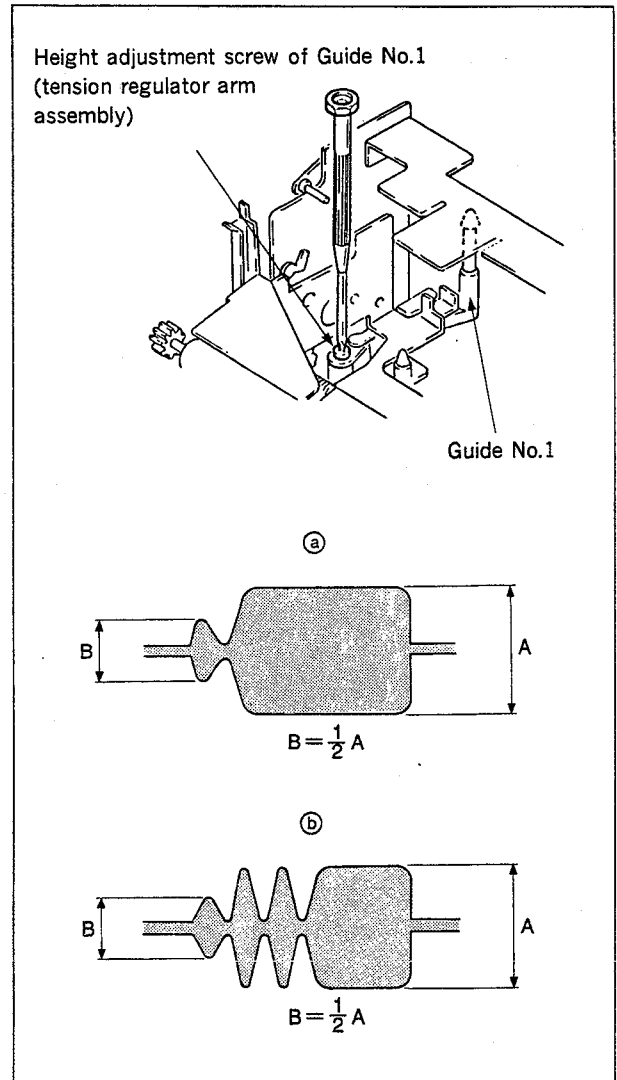

Fig. 6-2-2 Entrance side rough adjustment (2)
- 1) When the wave shape in Fig. 6-2-2 (a) has only 0.5 peak (amplitude is  $1/2$  of A) or less, rotate the height adjusting screw of Guide No.1 in clockwise direction. It causes raising the height of Guide No.1.
- 2) When the wave shape in Fig.6-2-2 (b) has more than two and half peaks (1st peak amplitude is  $1/2$  of A) or more, rotate the height adjusting screw of Guide No.1 in counterclockwise direction.